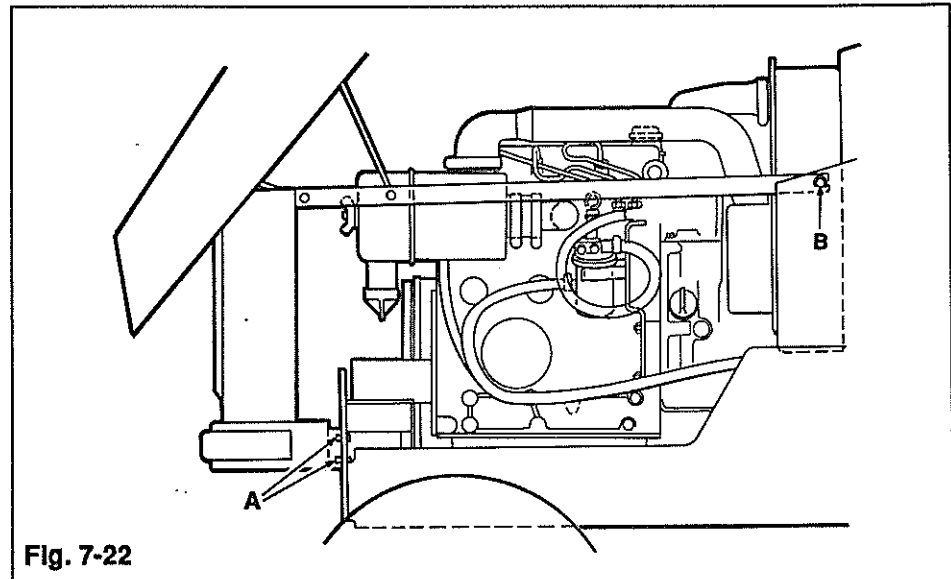

Fig. 7-22
3. Remove four (4) screws securing heat shield to underside of bumper.
4. Remove four (4) 3/8" capscrews securing front bumper to front engine mount (A, Fig. 7-22) and two 1/4" screws at rear of grille braces (next to radiator) (B).